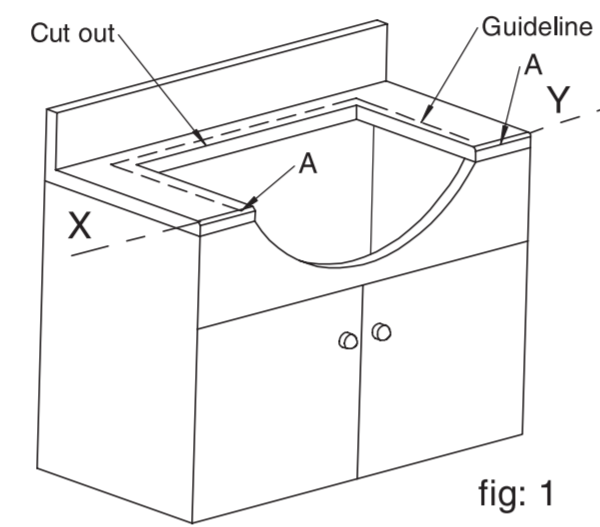
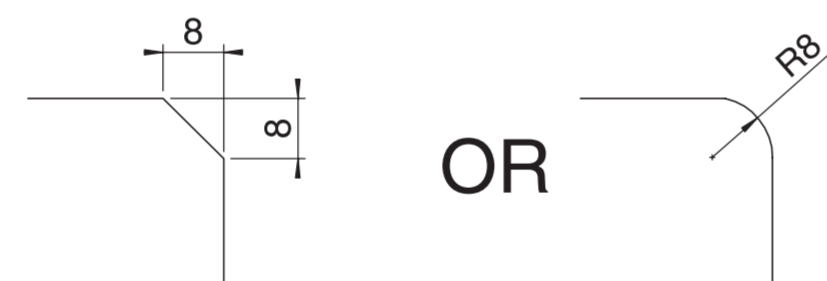

fig: 1
fig: 2
- Trim edge from counter top from cut at opening to the guide line as shown in A fig.1 and fig. 2 for edge
Recommended edge for A fig. 1